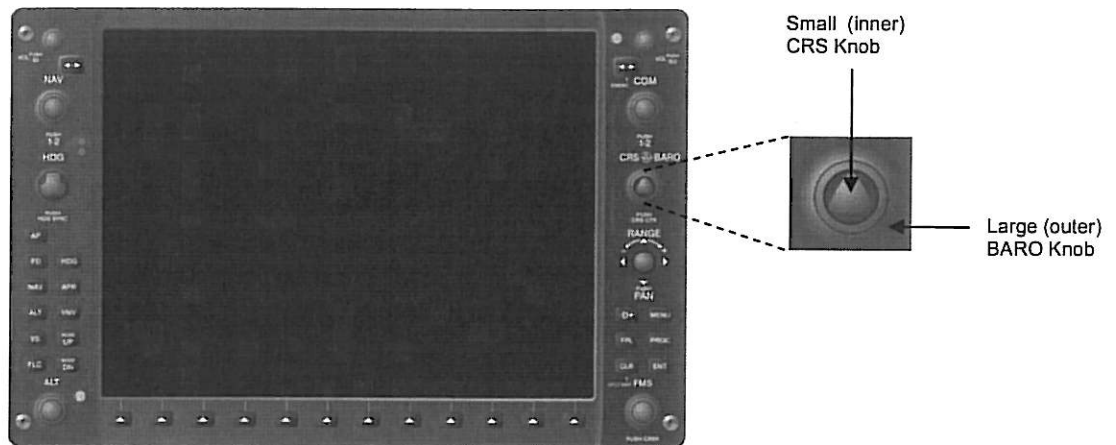
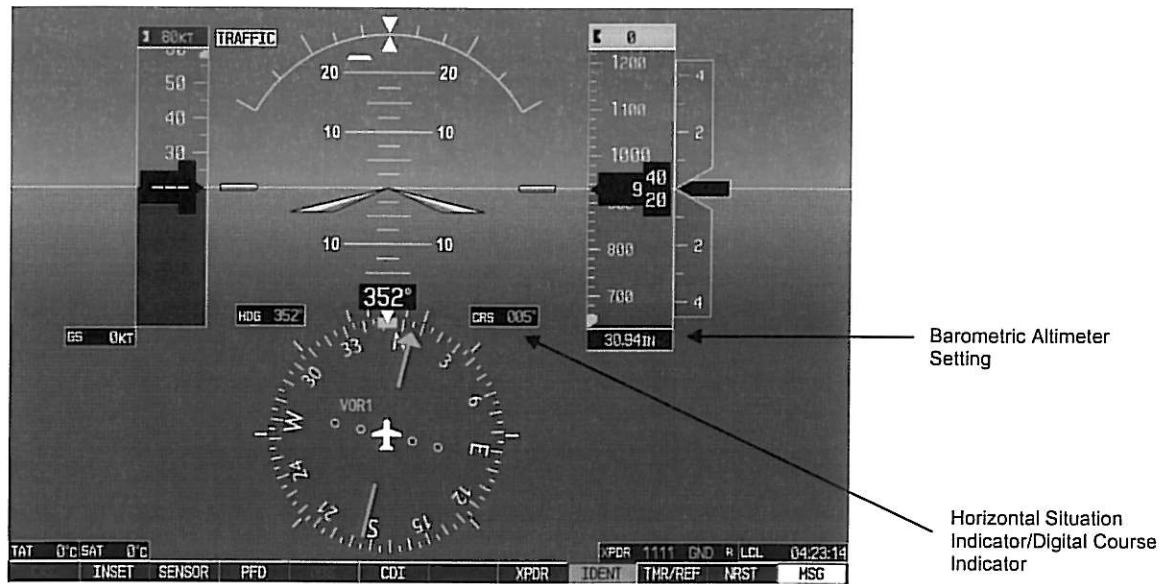

Figure 1
Figure 2
3. Rotate the large (outer) BARO knob (refer to Figure 1) a minimum of three complete revolutions in each direction while monitoring the Horizontal Situation Indicator/Digital Course Indicator (refer to Figure 2) on the PFD. If a change in the Horizontal Situation Indicator/Digital Course Indicator is produced while turning the BARO knob contact your local Garmin Service Center or OEM Dealer to replace the knobs.
4. Rotate the small (inner) CRS knob (refer to Figure 1) a minimum of three complete revolutions in each direction while monitoring the Barometric Altimeter Setting (refer to Figure 2) on the PFD. If a change in the Barometric Altimeter Setting is produced while turning the CRS knob contact your local Garmin Service Center or OEM Dealer to replace the knobs.